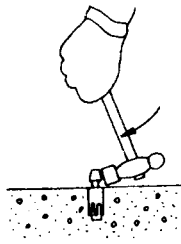

Fig. 9
- (5) By employing a hand hammer or pliers, snap off the tapered portion of the anchor. (Fig. 9)